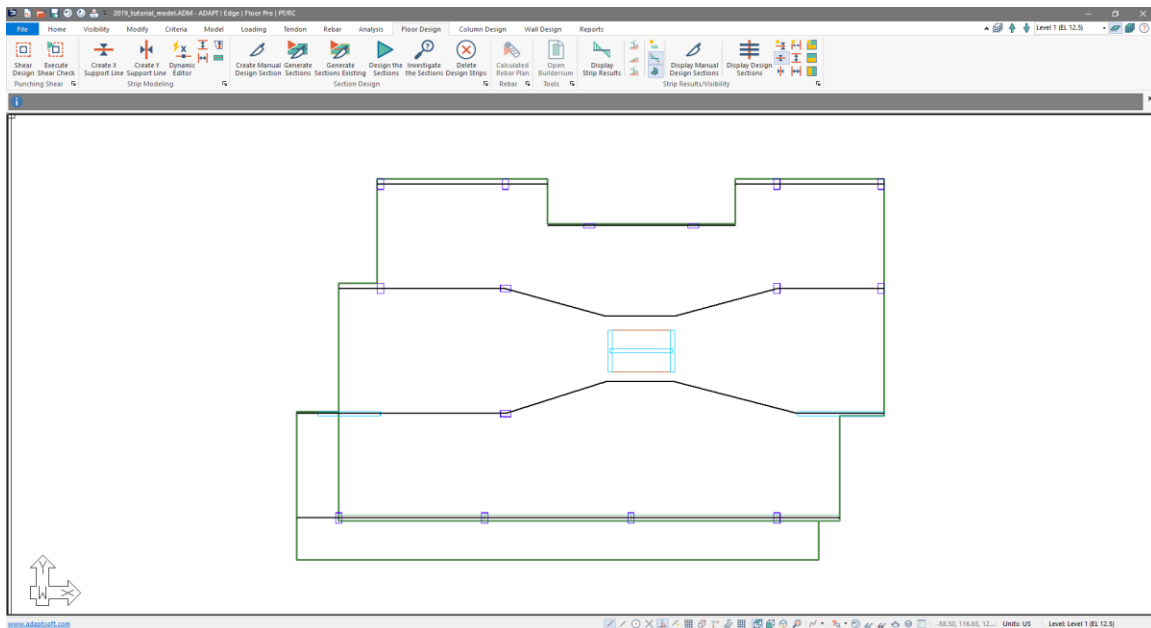

Figure 9-39
- Go to *Floor Design* → *Strip Results/Visibility* and click on the *Display Design Section*  icon. You may have to click the button twice to turn off the design sections completely. The user should now see the plan view of the first level with the X-direction support lines visible. Design sections and tributary regions for the support line have been turned off. The user's screen should be similar to that of **FIGURE 9-39**.